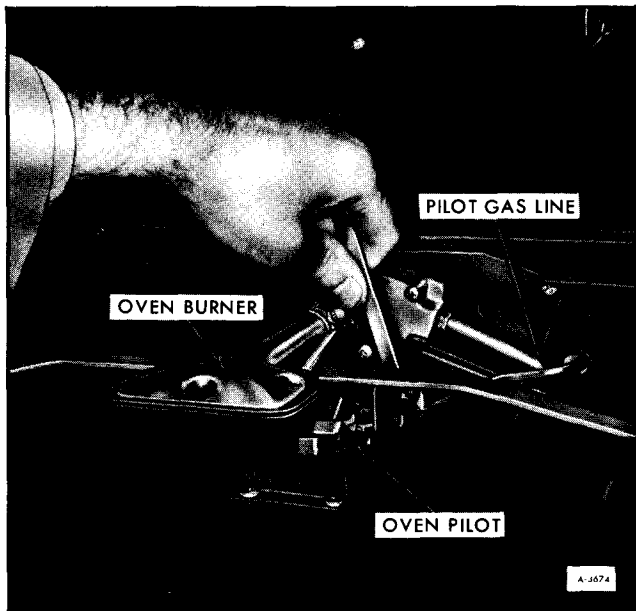
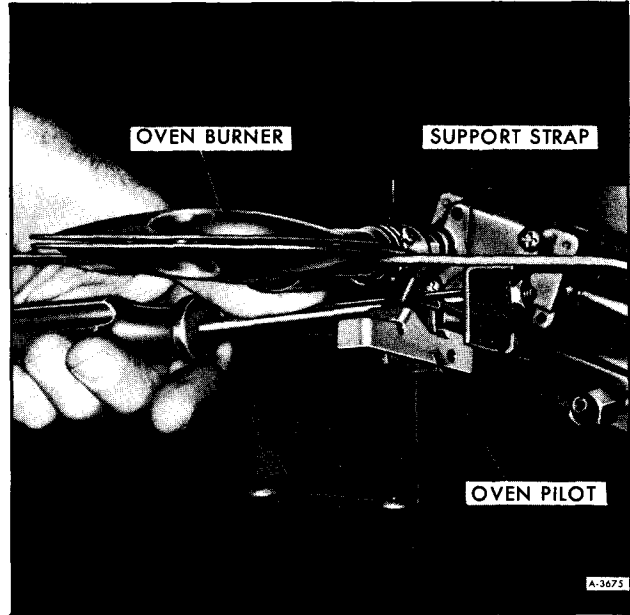

Figure 17—Disconnecting Gas Line From Oven Pilot
Figure 18—Removing Oven Pilot Assembly
4. Disconnect gas line from oven pilot (figure 17) and then remove oven pilot assembly (figure 18).